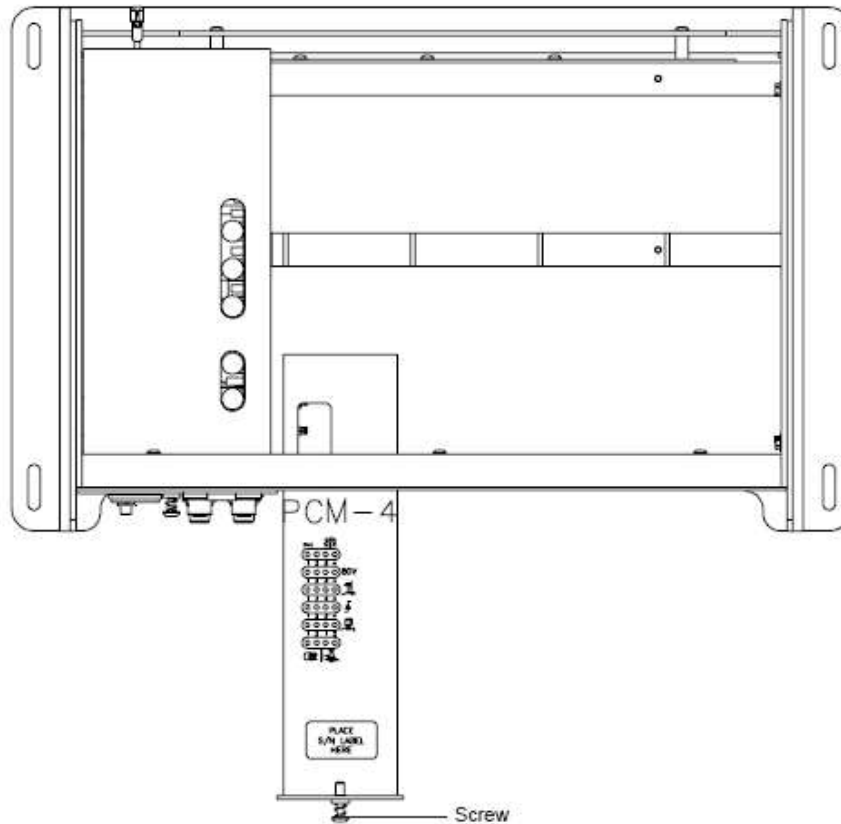

Figure 4-2. Adding/Removing a Module
3. Slide the module into the VCX Control base as shown in Figure 4-2.
4. Secure the module to the base rails with the screws located on both sides of the module (see Figure 4-2).
3. Loosen the screws that secure the module to the base rails of the VCX Control base (see Figure 4-2).
4. Slide the module out of the VCX Control base (see Figure 4-2).